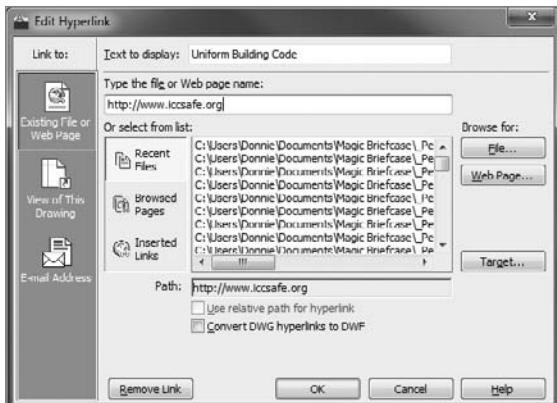

FIGURE 8.65 The Edit Hyperlink dialog box
5. Click the Hyperlink button; then, in the Edit Hyperlink dialog box (see Figure 8.65), you can do any of the following: